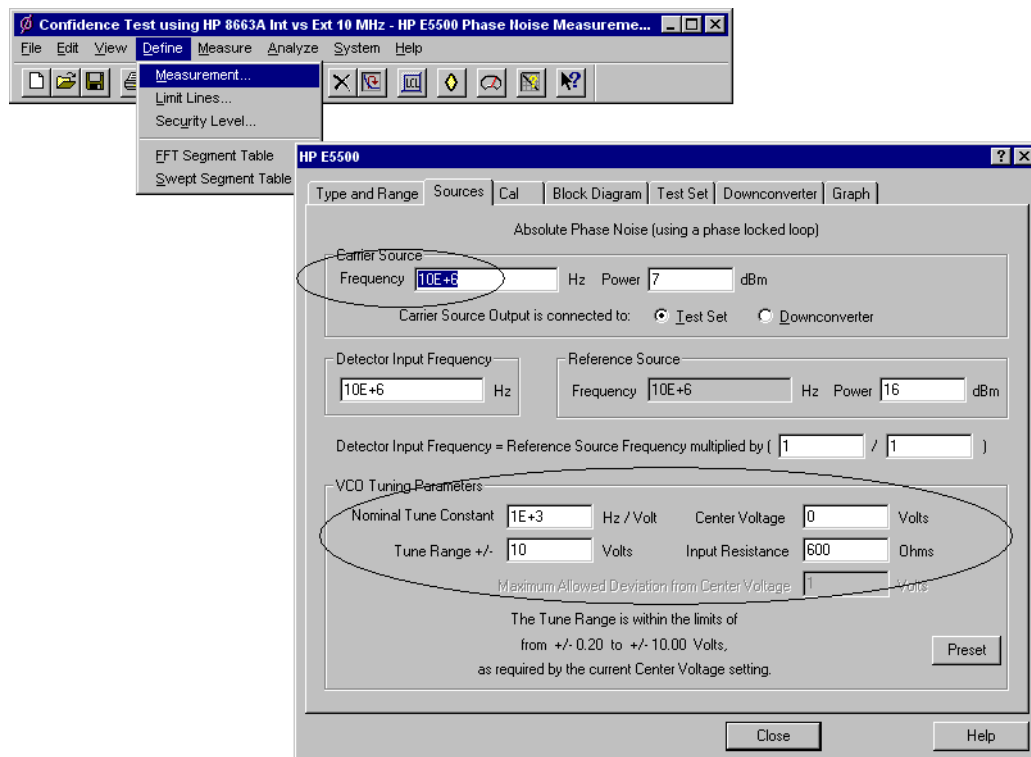

Figure 7-2 Enter Source Information
- 5 Using Figure 7-2 as a guide, navigate to the **Sources** tab.